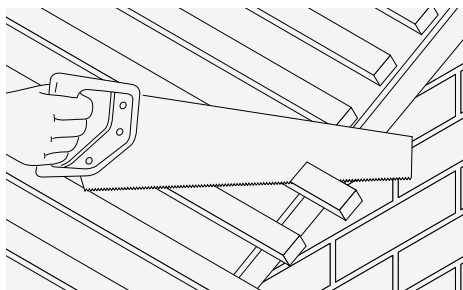

Fig. 6 - Saw battens flush
- 2 Where possible, set out tiling so that cloak verge tile fits flush with brickwork or bargeboard (Fig. 6).